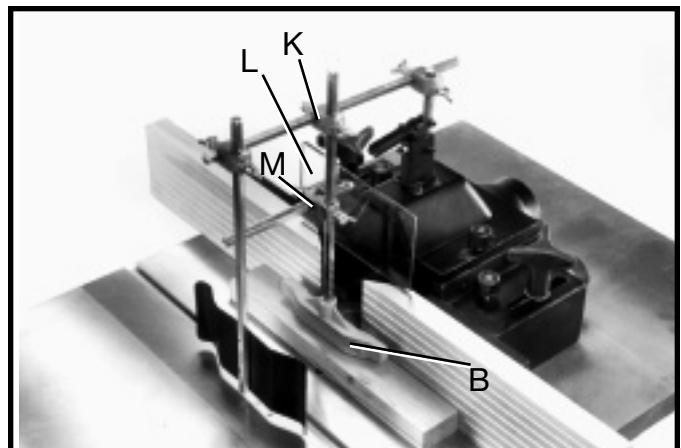

Fig. 58
2. Adjust holddown (B) Fig. 58, by placing a piece of material which will be used on the table as shown. Loosen thumb screws on guard mounting bracket (K) and adjust holddown (B) over top of workpiece to provide some down-ward pressure and tighten thumb screws.
3. Adjust clear plastic guard (L) Fig. 58, by loosening thumb screws on guard mounting bracket (M) and locating the guard so it will deflect the wood chips and provide protection from reaching the cutter, then retighten thumb screws.